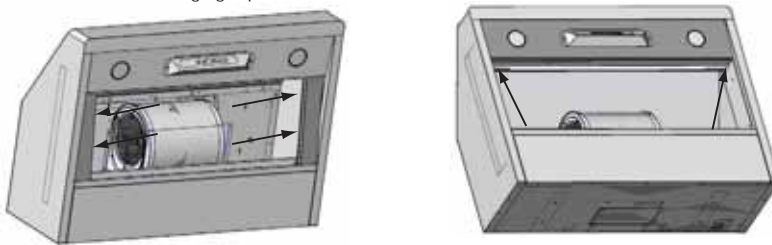

FIG. 5
1. Before hood installation, gain access to PC board by following the steps shown in FIG. 5.